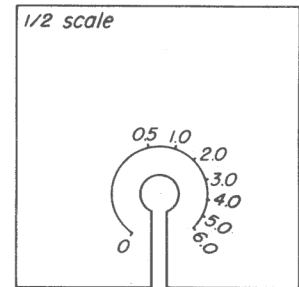

Fig. 19-9
Step 6. Adjust the potentiometer for a one-volt reading on the meter. Mark the position of the pointer and label the point as in the previous step. Repeat the operation for -2, -3, -4, -5, and -6 volts. Also mark the zero point at the most counterclockwise position just before the switch is turned off. Your card should be marked similarly to the one shown in Fig. 19-9. You now have a calibrated source of bias voltage from 0 to -6 volts.